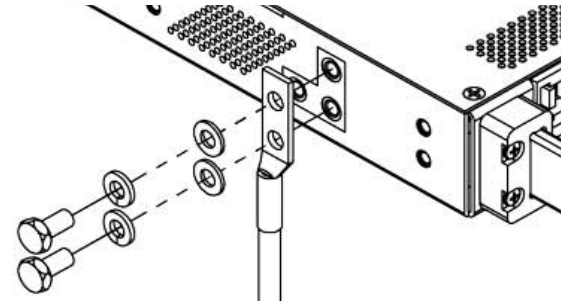

Figure 8. Chassis Ground Connection
**Step 1.** Connect the lug to the chassis (see Figure 8) with the included 1/4in-20 hardware. Make sure heat shrink and no-oxide compound are applied appropriately prior to attachment.